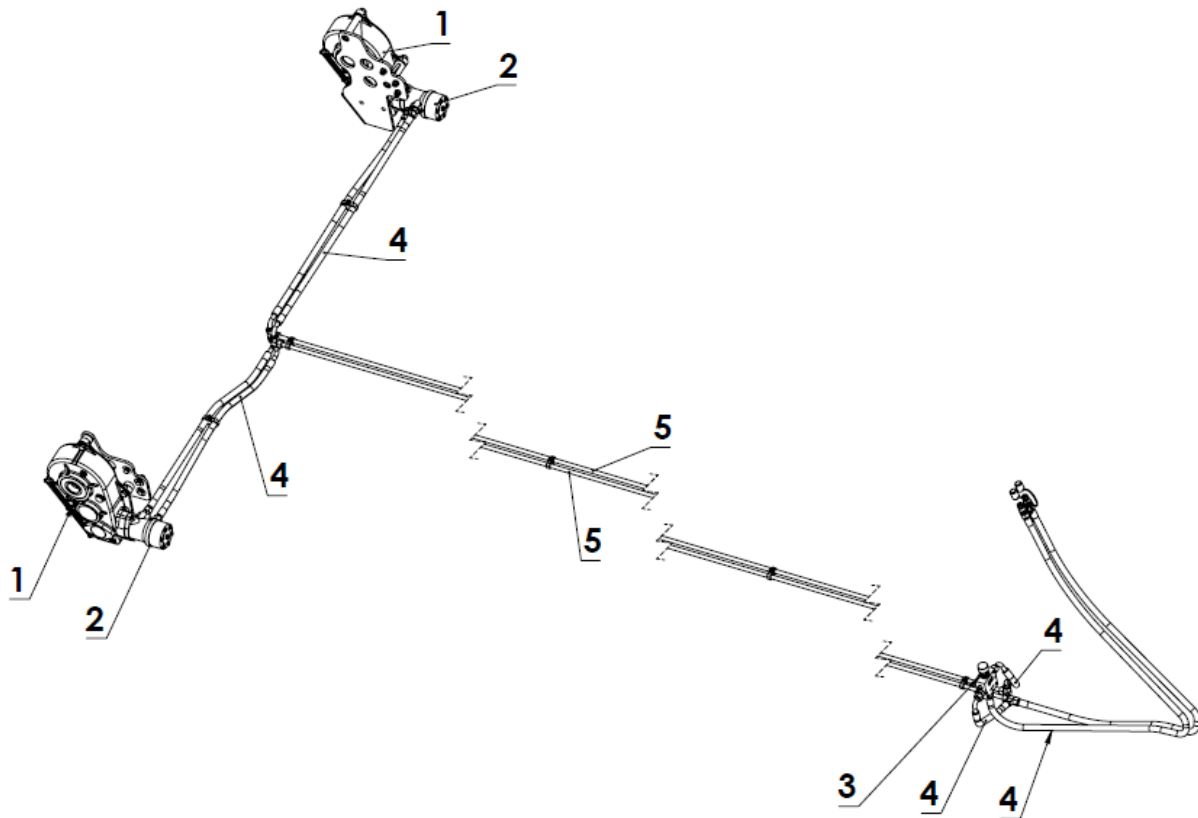

Figure 4.7. Design of conveyor drive
The conveyor's hydraulic installation (Fig. 4.7) powers two engines (2) powering transmissions (1) on both sides of the spreader. This makes it possible to move material inside the box in the direction of the adapter. A regulator (3) with a knob enabling stepless regulation of the conveyor's feed rate is found on the front of the machine. This makes it possible to control